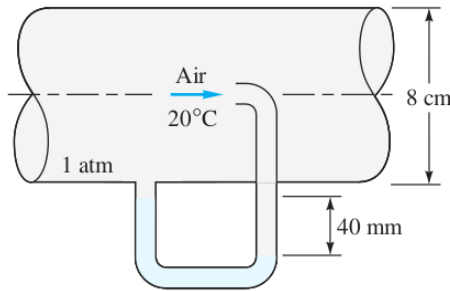

Fig. 6.11
- 6.11** For the pitot-static pressure arrangement of Fig. 6.11, the manometer fluid is (colored) water at 20°C. Estimate a) the centerline velocity, b) the pipe volume flow, and c) the (smooth) wall shear stress.